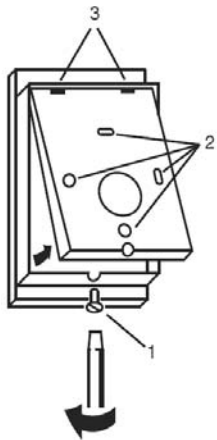

Fig.2
- Remove single screw from underneath unit Fig.2 (1)
- Separate base and install the base with the appropriate screws and fixings for the wall type (not supplied) Fig.2 (2)
- Position the unit on the base, first hooking the two recesses in the inside top over the hooks on the base then gently swing the unit down so that the pins engage in the connector Fig.2 (3)
- Finally, secure with single fixing screw underneath Fig.2 (1)